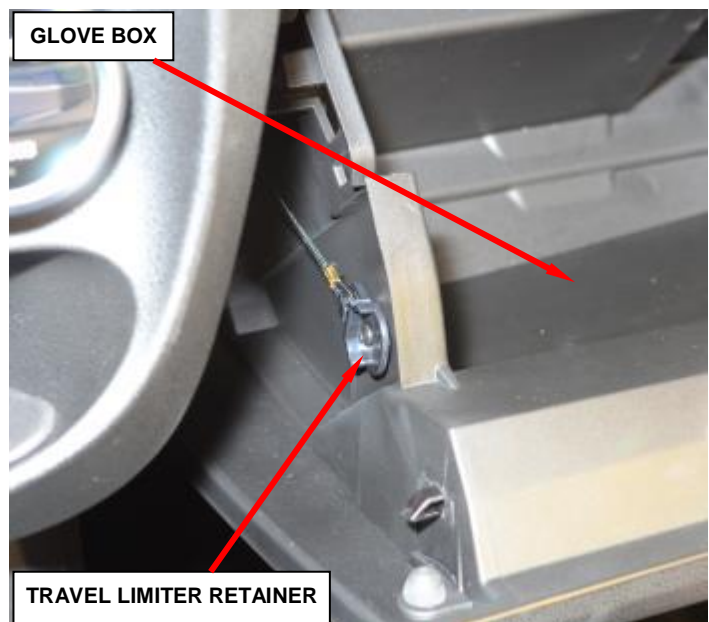

Figure 25 - Travel Limiter Retainer
- b. Slightly lower the glove box and release the retainer for the travel limiter (Figure 25).
- a. Partially close the glove box and engage the retainer for the travel limiter (Figure 25).